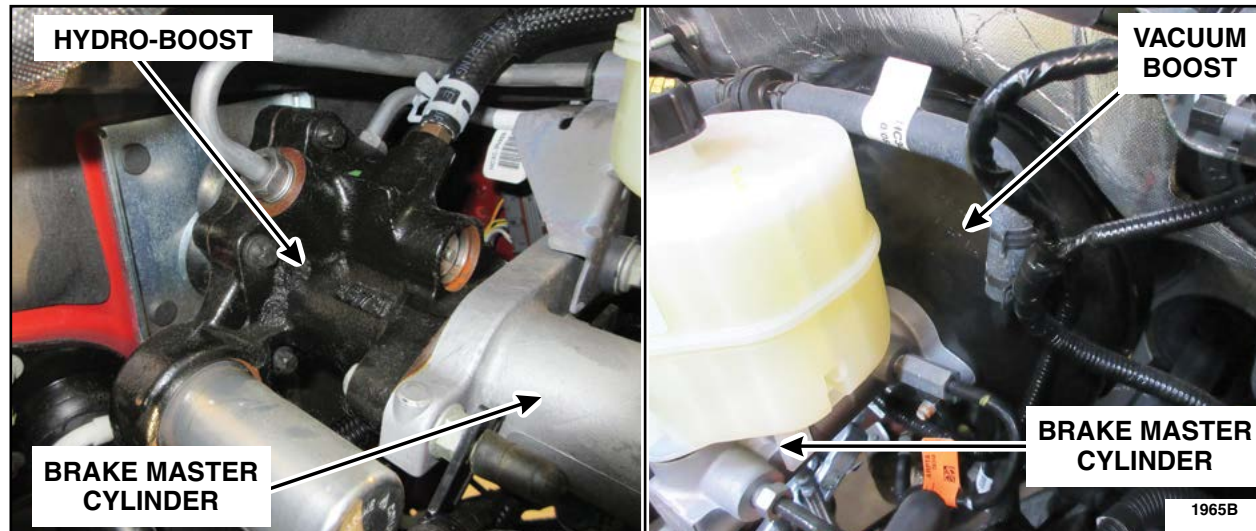

FIGURE 1
1. Open the hood to determine if the vehicle is equipped with vacuum boost, or Hydro-Boost brake package. See Figure 1.